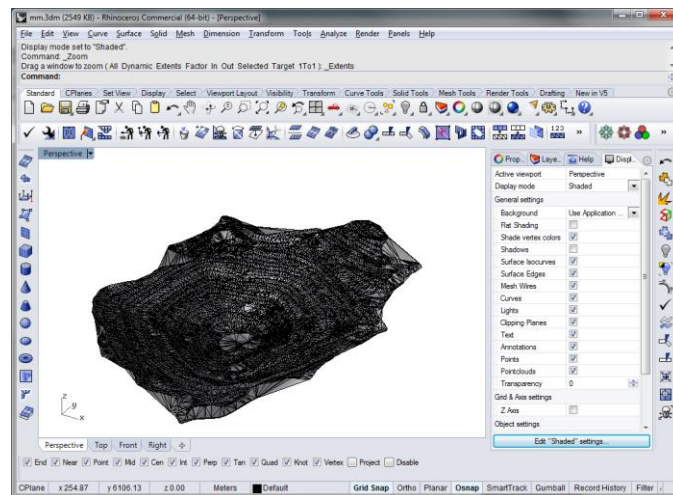

Figure 142: Mesh with grid lines.
5. Click on the **Shaded Viewport** icon to see the mesh with the grid lines (Figure 142).